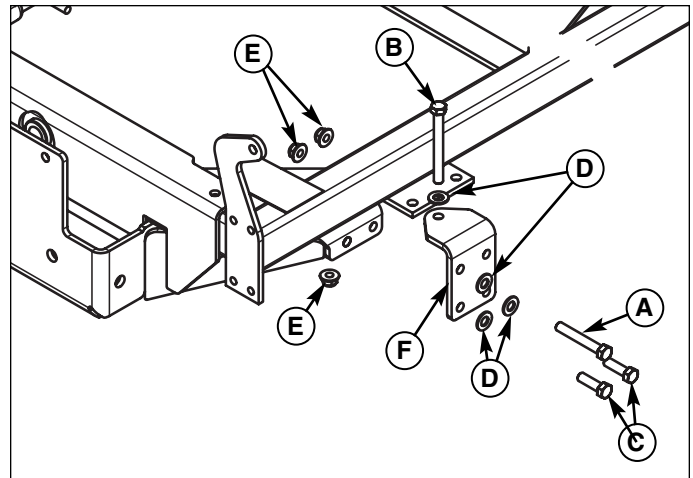
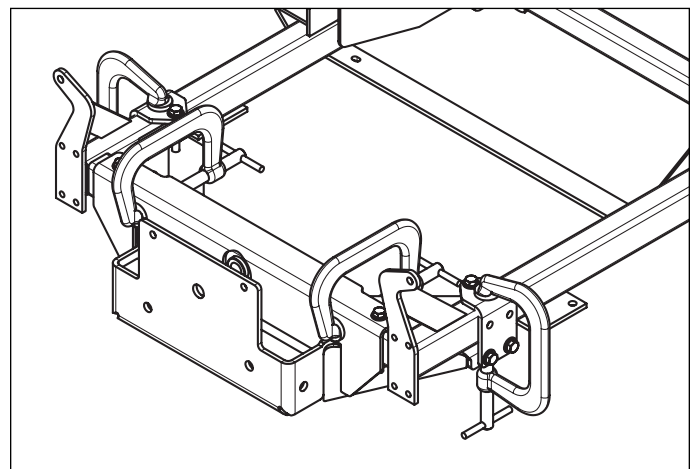

Figure 6. Loosely Install the Rear Brackets
Figure 7. C-Clamp Positions
- Loosely install the rear brackets (F, Figure 6) to the new front end with the 3/8-16 X 1-1/4" bolts (C), 3/8-16 X 3-1/2" bolts (B), 3/8 SAE washers (D), and 3/8-16" nylon flange nuts (E). Snugly clamp the front of the new front end to the cross member using (2) C-clamps (See Figure 7). NOTE: Do not over tighten the clamps.
- Drill the front mounting holes: Use the holes in the new front end as guide, drill the top holes from the top and the bottom holes from the bottom to insure the correct alignment. Install 3/8-16 X 3-1/2" bolts (A, Figure 6) and 3/8-16 flange nuts (E, Figure 6). Tighten the hardware and remove the clamps.